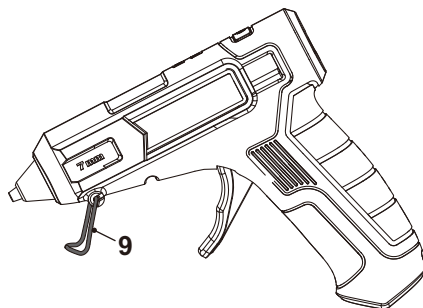

Fig. 2
2. Place the glue gun on a stable, level surface by using its stand holder (9) as shown in Fig. 2 when not in use.